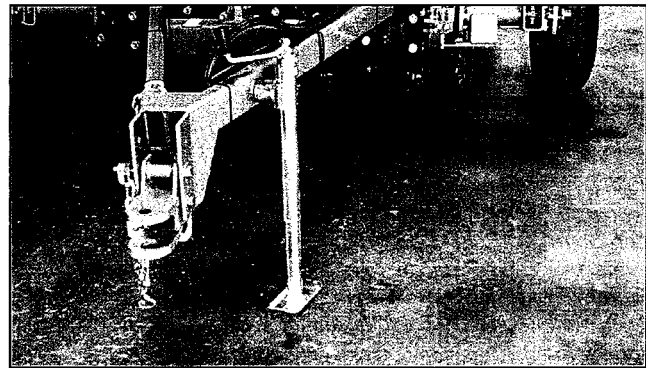

Figure 4
1. With drill lowered in field position and tongue jack mounted as shown in Figure 4, raise or lower tongue jack to level drill tongue.